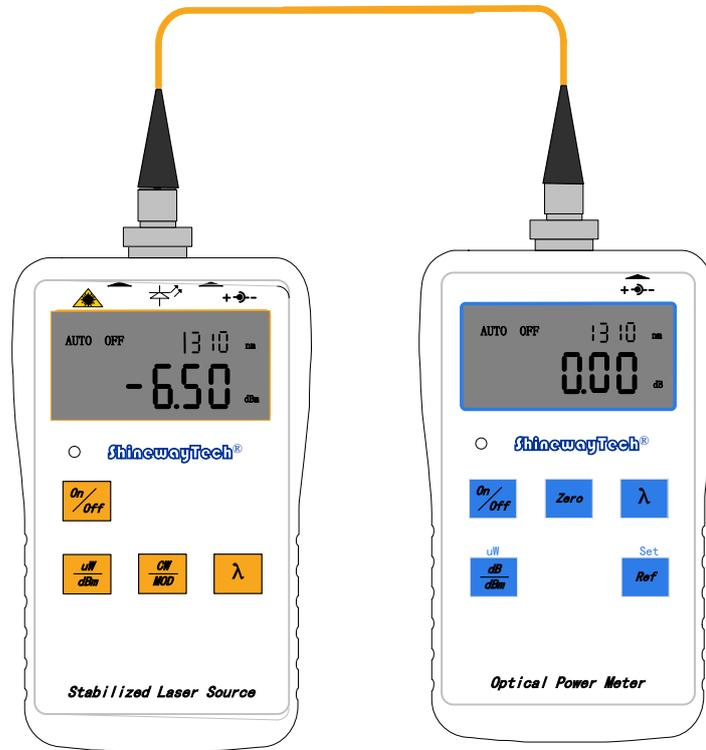

FIGURE18. SAVE REFERENCE POWER VALUE
2. **Check the instrument status:** Ensure that the source is in Continuous Wave (CW) output mode. Set the optical power to the appropriate wavelength (using the [λ] key) and to dBm units (using the [dB/dBm] key). Note that only under the dBm mode, the reference power value can be set.
3. **Store the reference power value:** Press the [Ref] key for several seconds until “HELD” appears on the LCD screen, OPM-15/OPM-21/OPM-25 will set the current measured dBm as reference value. The display should read 0.00dB, as shown in Figure 18.